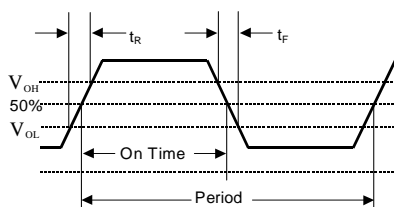
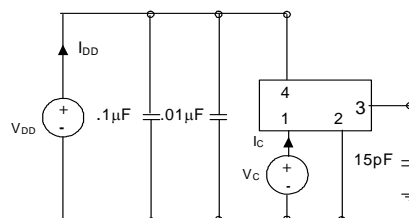

Figure 3. Output Waveform
Figure 4. Typical Output Test Conditions (25±5°C)
2. Figure 3 defines these parameters. Figure 4 illustrates the operating conditions under which these parameters are tested and specified. For $f_O > 90\text{MHz}$, rise and fall time is measured 20 to 80%.